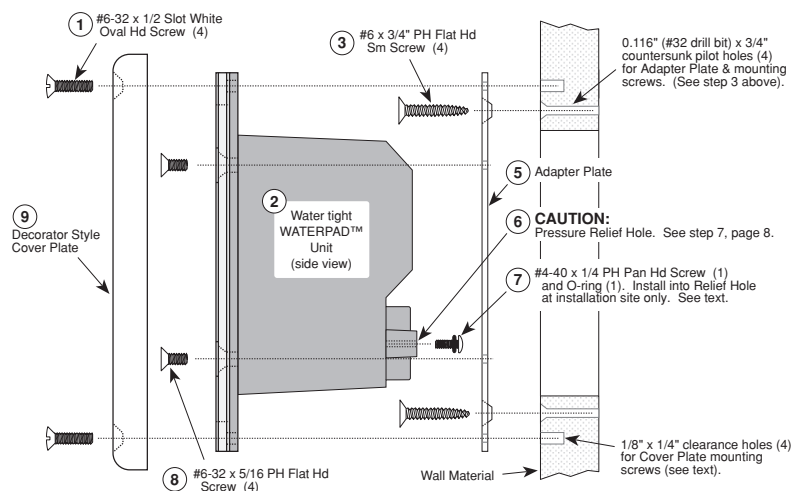

**Fig. 8** Mounting the Waterpad into a New Construction type J-box.
- You would then make connections to the 8-terminal block and the 4-conductor inter-room cable and carry out all the remaining steps as described for retrofit J-box mounting. Refer to steps 1 through 9 previous and **Fig. 8**.